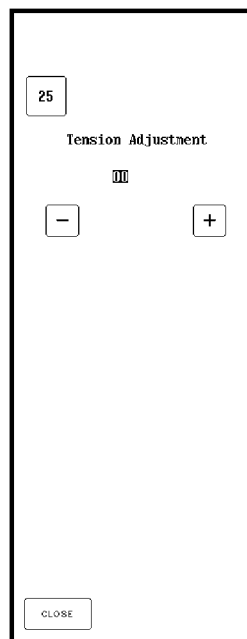

fig. 2
2. Press "25". (Fig. 2)
3. Set the offset value to 0. (Fig. 2)
7. To finely adjust while sewing, after performing the above adjustment, enter the test mode, press "25" (Fig. 2), and press the S/S key while performing test sewing. (Fig. 4)